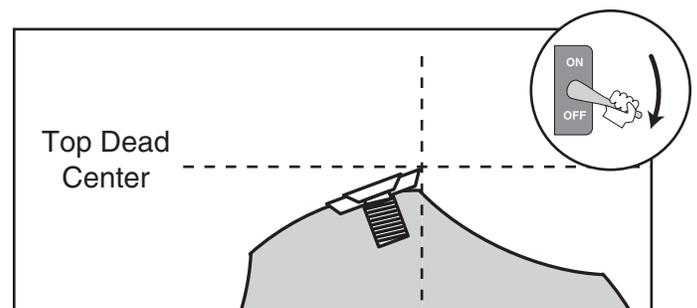

Figure 10. Cutterhead insert at top-dead-center.
22. Place a straightedge on the outfeed table so it extends over the cutterhead, and rotate the cutterhead pulley until one of the carbide inserts is at top-dead-center (TDC), as shown in **Figures 10 & 11**.